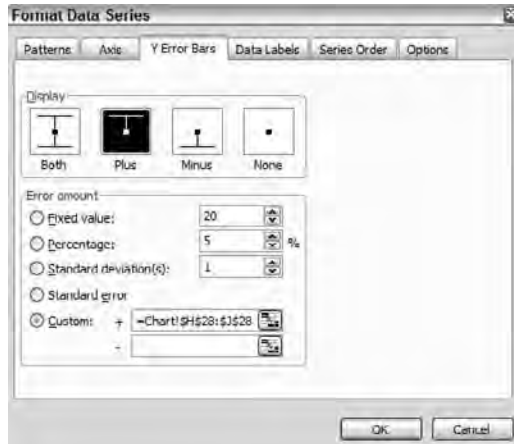

Figure 24.3: The Y Error Bars tab enables you to add the upper and lower bars to segments.
7. Add the top whisker for the max value by right-clicking on the top segment, choosing Format Data Series, and selecting the Y Error Bars tab shown in Figure 24.3. In the Error Amount group, select Custom, and in the + (plus) reference box, enter the Max Plot data in H28:J28.